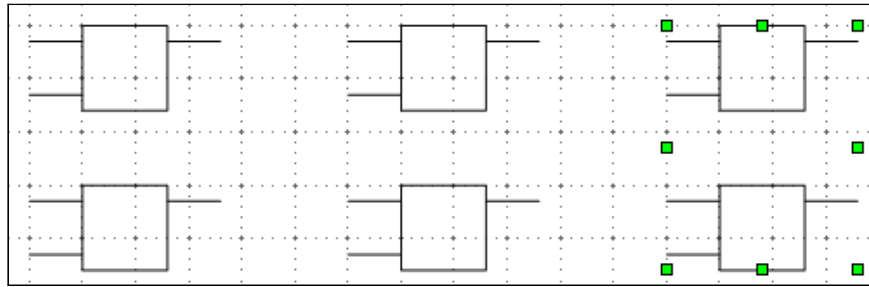

Figure 5: The blocks after duplication
With the same method, copy both blocks twice more to the right. Select both blocks, call up the Duplicate dialog, and use placement values of 30 mm (X) and 0 mm (Y). Your drawing should look similar to Figure 5.